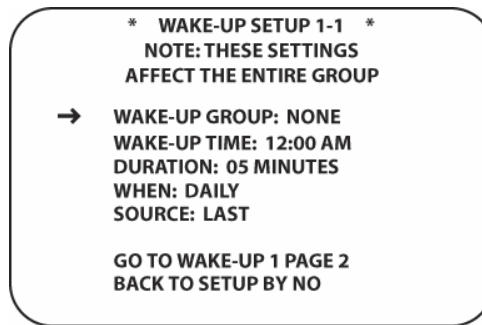

Figure 113 Wake-Up Setup 1-1
3. Using the **▼/▲ Navigation Button [oval 16]** position the cursor next to **SET WAKE-UP TIMES**. Press the **Set Button [oval 18]**. The **WAKE-UP SETUP 1-1** screen will appear. (**Figure 113**)